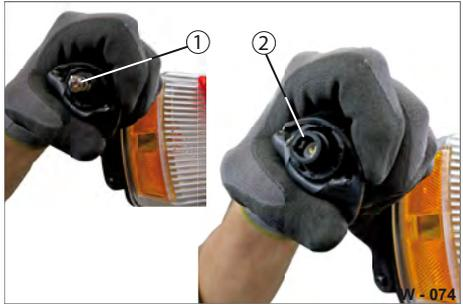

Fig. 72 Replacing lamp
- ▶ Unscrew the defective lamp (Fig. 72/1).